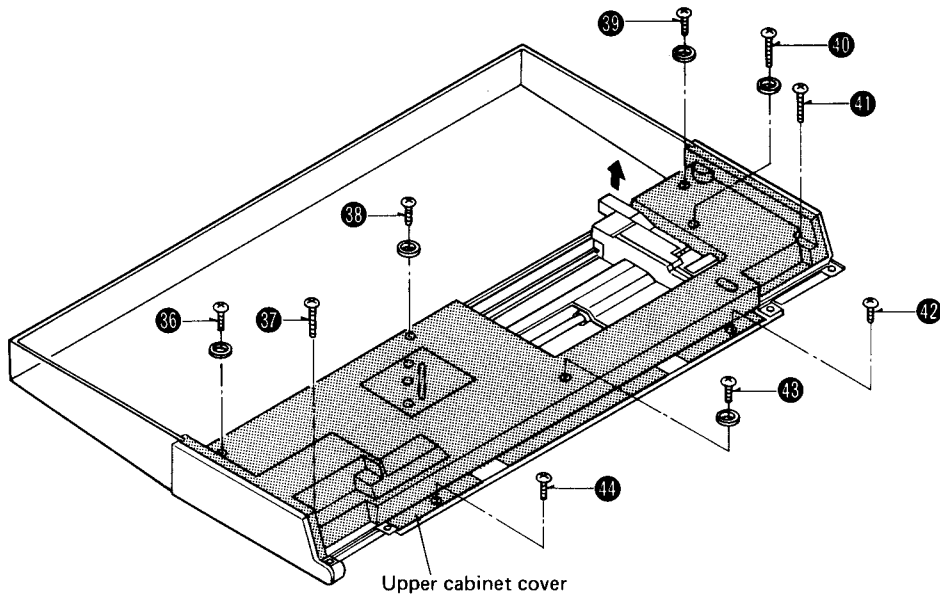

Fig. 9
4. Completely open the dust cover; remove the upper cabinet cover setscrews ㉞ ~ ㉟; and remove the upper cabinet cover while pulling the tonearm in the direction of the arrow. (Fig. 9)